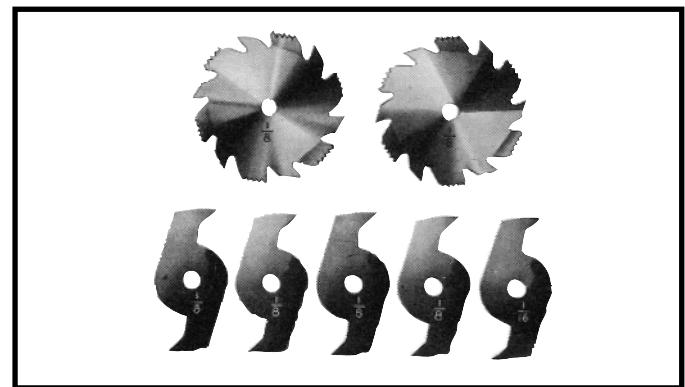
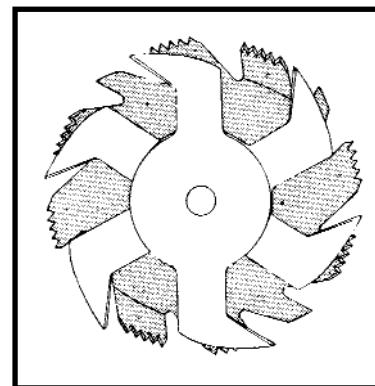
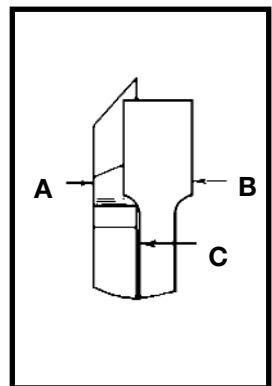

Fig. 53
Fig. 54
Fig. 55
1. Dadoing is cutting a rabbet or wide groove into the work. Most dado head sets are made up of two outside saws and four or five inside cutters, (Fig. 53). Various combinations of saws and cutters are used to cut grooves from  $1/8"$  to  $13/16"$  for use in shelving, making joints, tenoning, grooving, etc. The cutters are heavily swaged and must be arranged so that this heavy portion falls in the gullets of the outside saws, as shown in Fig. 54. The saw and cutter overlap is shown in Fig. 55, (A) being the outside saw, (B) an inside cutter, and (C) a paper washer or washers, used as needed to control the exact width of groove. A  $1/4"$  groove is cut by using the two outside saws. The teeth of the saws should be positioned so that the raker on one saw is beside the cutting teeth on the other saw.